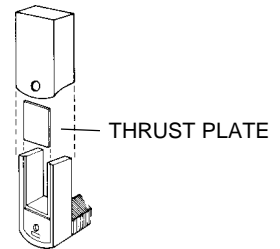

Figure 8. Bearing Covers.
4. Position the black thrust plates in the center post slots as shown in Figure 8.